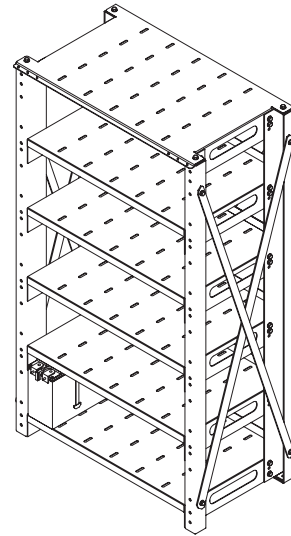

Figure 7.7a
- See Figures 7.7a, 7.7b and 7.7c.